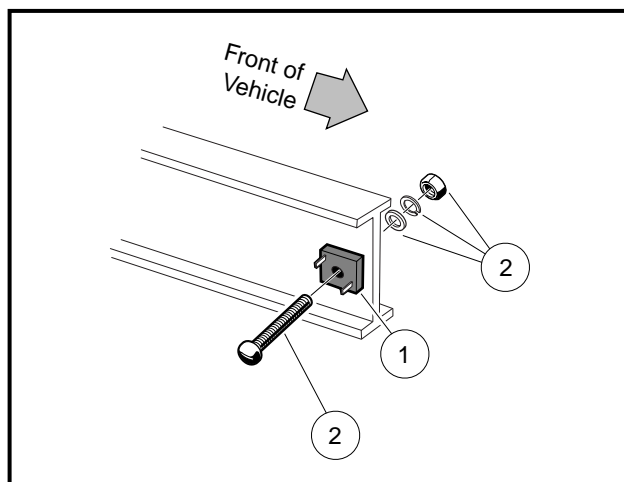

Figure 12-17 Diode
2. Disconnect wires from the diode (1) (**Figure 12-17, Page 12-14**).
3. Remove the mounting hardware (2) from the diode and remove it from the vehicle.
1. Mount the diode to the frame using the mounting hardware. Tighten to 25 in-lb (2.8 N·m) (**Figure 12-17, Page 12-14**).